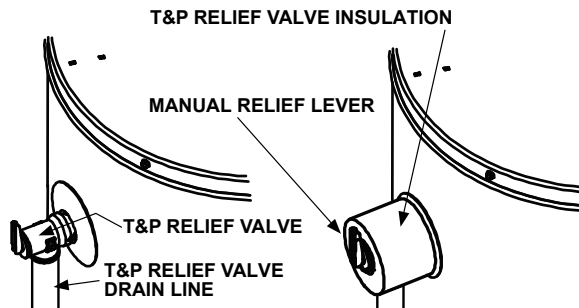

FIGURE 10.
1. Locate the temperature and pressure relief valve on the water heater (also known as a T&P relief valve). See Figure 10.
3. Spread the slit open and fit the insulation over the T&P relief valve. See Figure 10. Apply gentle pressure to the insulation to ensure that it is fully seated on the T&P relief valve. Once seated, secure the insulation with duct tape. **IMPORTANT:** The insulation or tape should not block or cover the T&P relief valve drain opening. Also, the insulation or tape should not block or hinder access to the manual relief lever (Figure 10).